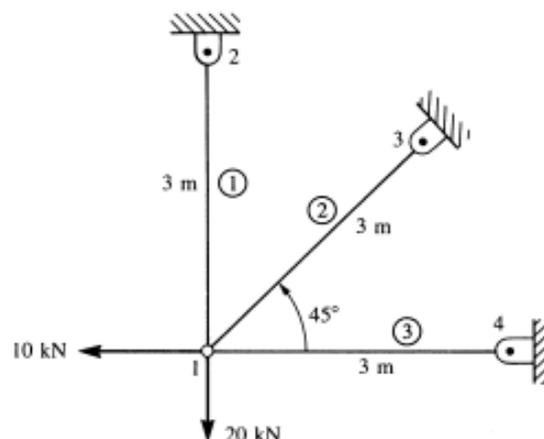

Figure.1
4. a) For the plane trusses shown in the figure.1, determine the horizontal and vertical displacements of node 1 and the stresses in each element. All elements have  $E=210$  GPa and  $A=4.0 \times 10^{-4} \text{ m}^2$ . [14]